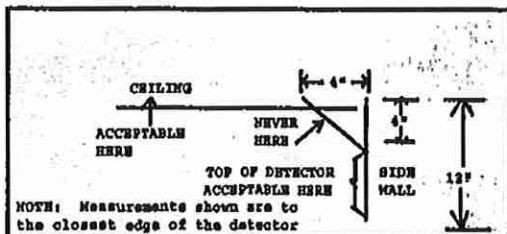

Figure 5
The 4 inch "Dead Air" space where the ceiling meets the wall, as shown in Figure 5.
- The 4 inch "Dead Air" space where the ceiling meets the wall, as shown in Figure 5.